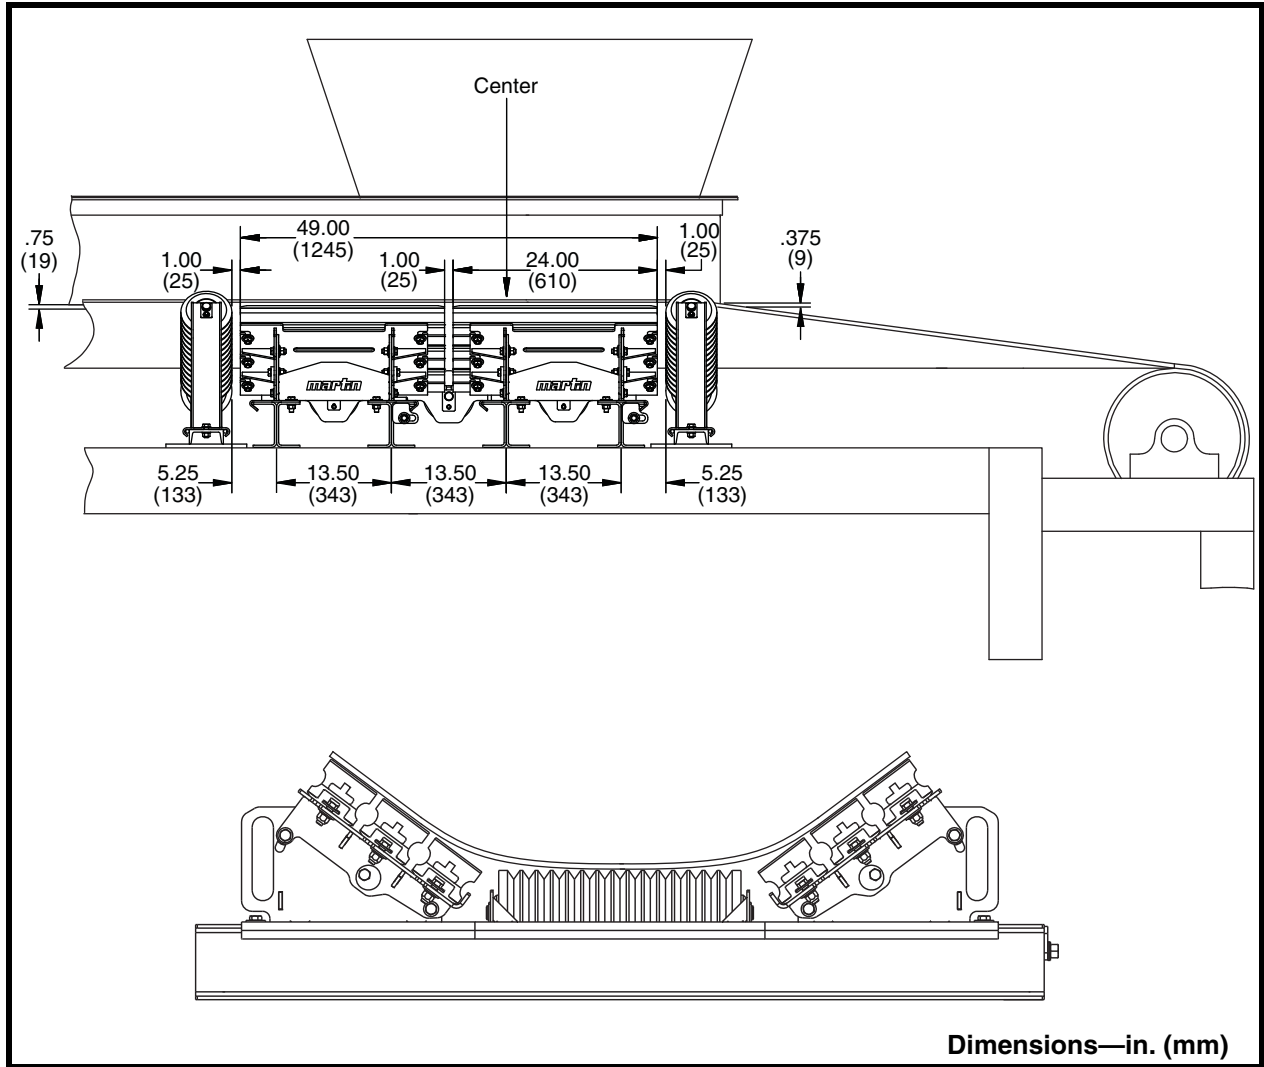

Figure 1. Measuring for Combination Cradle with Center Impact Roll
1. See Figure 1 or 2. The distance between top of belt and bottom of wear liners must increase over length of transfer point. If necessary, modify chute walls and/or wear liners.
1. Mark location of cross supports (B) on stringers (A). See Figure 1 or 2 for mounting dimensions.
2. Install bracket (B) on stringer using J-bolts (C), lock washers, and nuts (D).
3. Measure 13-1/2 in. from center of bracket (B) to center of bracket (F).
4. Install bracket (E) on stringer using J-bolts, lock washers, and nuts.
6. Install cross supports (F) onto brackets using cap screws, washers, and nuts (G).
7. Make sure lock mechanism (H) is on the outside of the cross support.